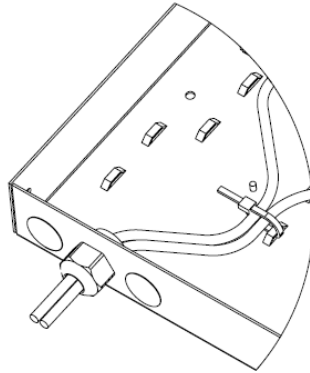

Fig. 3
3.0.3 Back Cable Entry & Retention (Fig. 3)